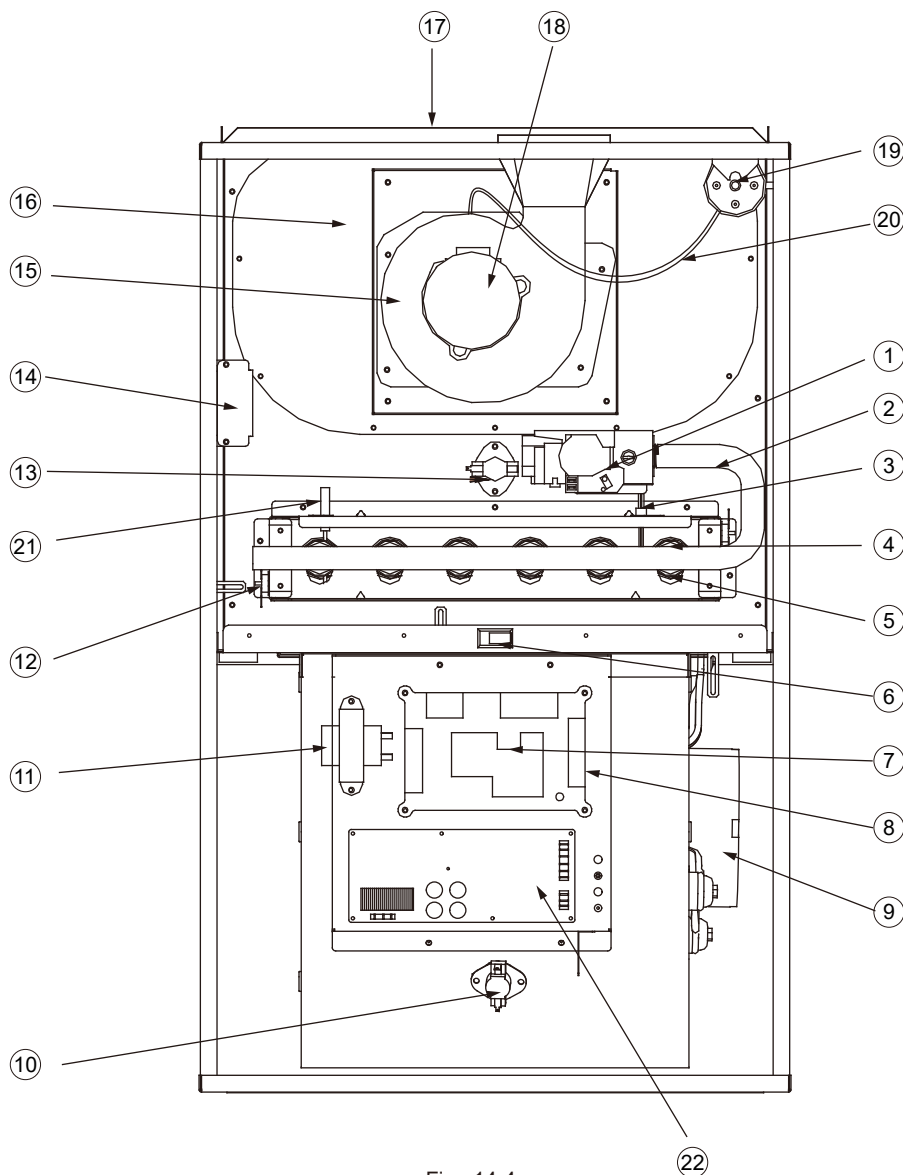

Fig . 14-4
- Parts are available from your distributor. (See Fig. 14-4)